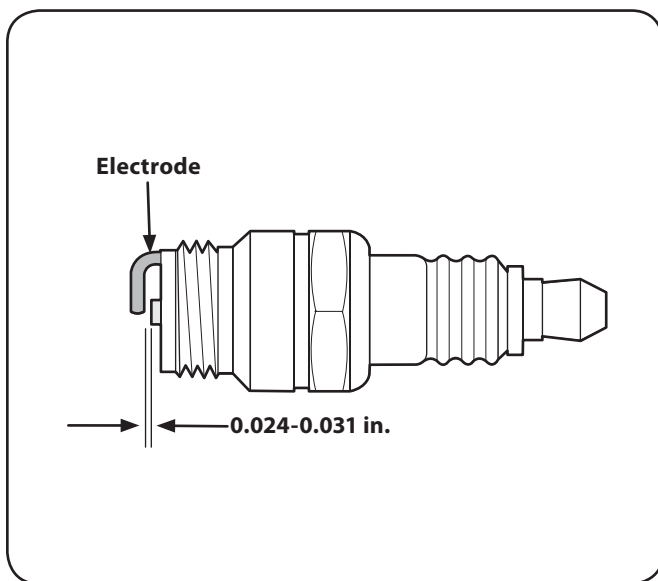

Figure 6-10
3. Measure the plug gap with a feeler gauge. Correct as necessary by bending side electrode. See Fig. 6-10. The gap should be set to 0.024-0.031 in.